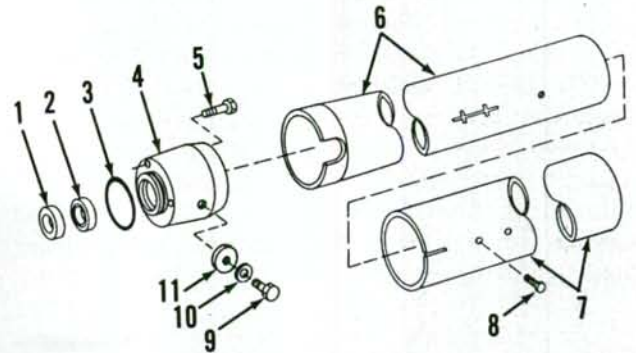
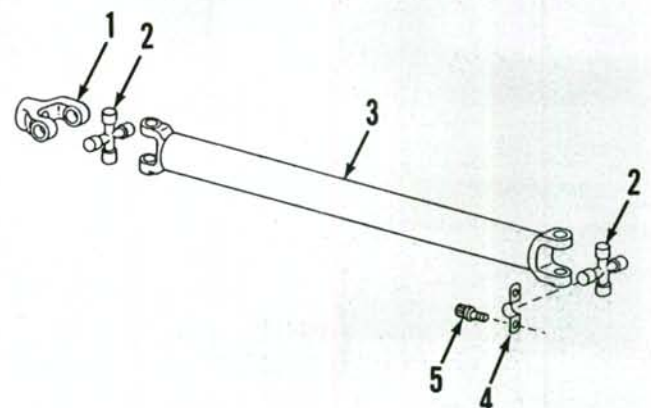

Fig. 8—Exploded view of typical front drive shaft shield assembly and relative components.
Fig. 9—Exploded view of front drive shaft.
8. To remove the front drive shaft and shield, first unbolt front and rear shields (6 and 7—Fig. 8). Slide shields together, then unbolt front “U” joint clamps (4—Fig. 9). Remove shield and drive shaft assembly. “U” joint kits (2) are available and renewal procedures are conventional.